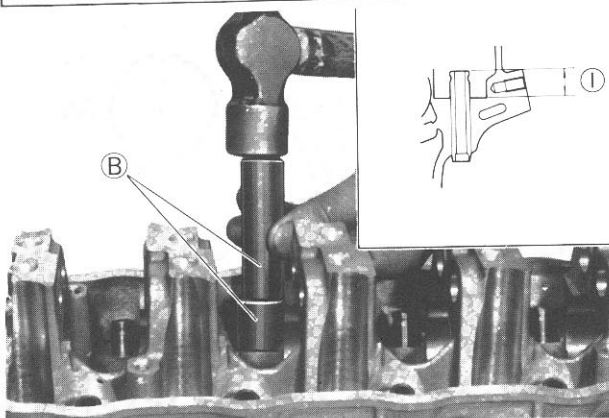

Fig. 3-60
- 2) Heat the cylinder head uniformly to anywhere between 80°C and 100°C (176°F-212°F) so that the head will not distort, and drive the oversize guide into the hole with the valve guide installer set (B) (09916-57310 and 09916-57320). See Fig. 3-60. Be sure to carry out this step speedily so that all guides will go into the cylinder head in steady temperature state.